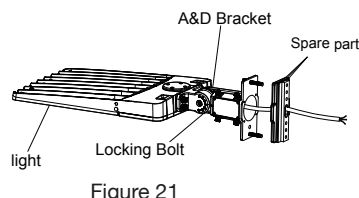

Figure 21
Step 1: Remove the spare parts from A&D bracket (Figure 21)